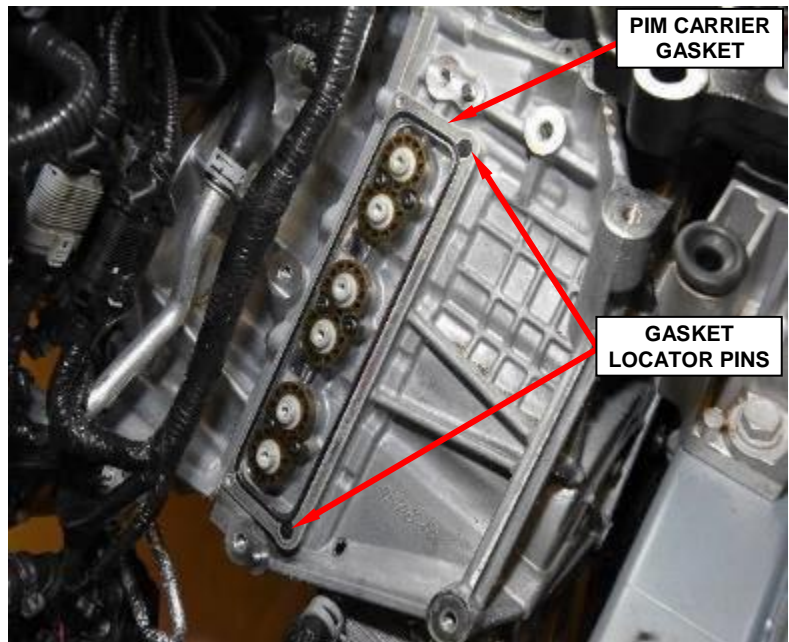

Figure 37 – PIM Carrier Gasket
- 66. Remove and discard the PIM carrier gasket (Figures 37 and 38).
1. Install the **new** PIM carrier gasket to the transmission housing while ensuring that that gasket locator pins are seated in the holes on the transmission housing (Figures 37 and 38).